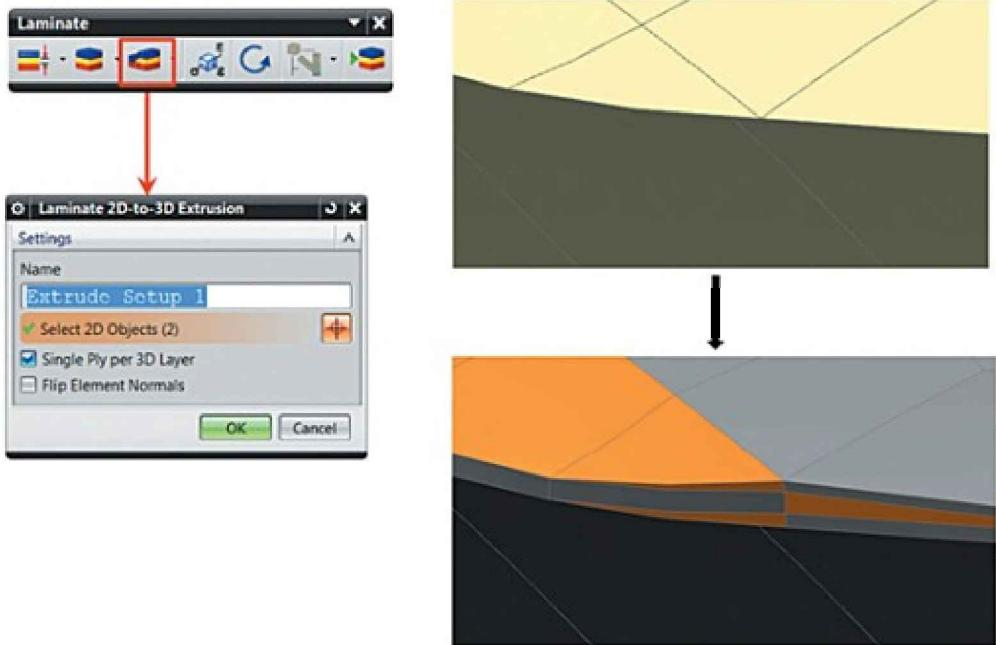

Figure 6.17. Creating 3D composites
- Use the **Extrude Laminate** command to select all polygon faces in the dialog box and have their 2D elements converted to 3D elements (Figure 6.17). To change the creation direction of the 3D elements, select the *Flip Element Normals* check box.